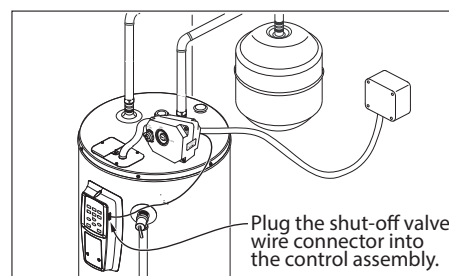

Figure 4: Installed Wire Connector
- 8 Install the wire connector from the shut-off valve into the control assembly prior to energizing the water heater. See Figure 4.